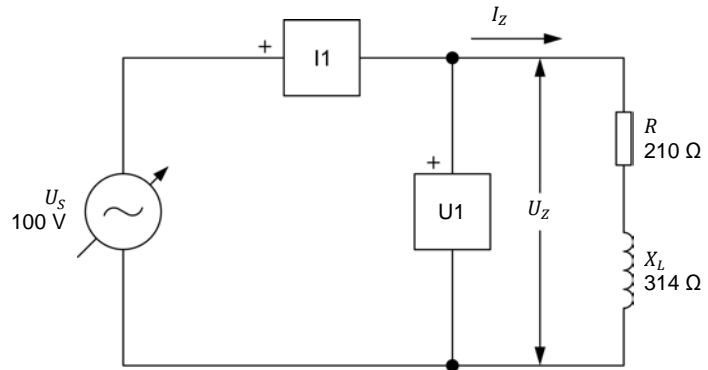

Figure 2-18. Series ac circuit containing a resistor and an inductor.
23. Set up the circuit shown in Figure 2-18.